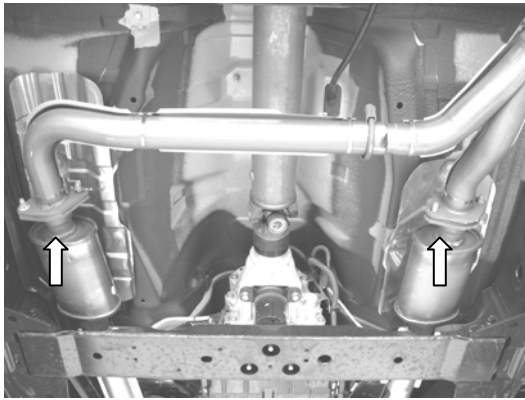

Figure 3
4. Unbolt the flanges shown in figure 3 located in front of the muffler assembly making sure to remove the ground strap located on the left flange.